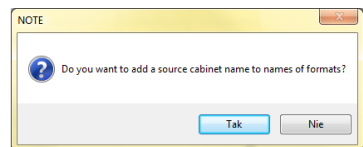

Fig. 107 – message window
- you will be asked whether the names of imported formats are to be preceded by the symbol of the source cabinet (Fig. 107);